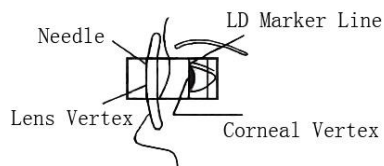

Figure 6
support on the window lens, aim to the patient's corneal apex. Align the needle(11) at the highest point outside the arc of patient's glasses, as shown in Figure 6.